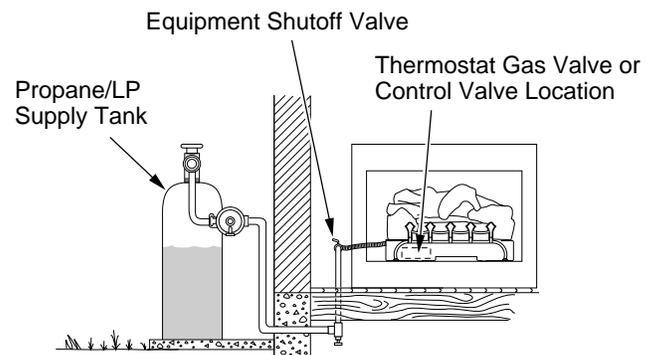

Figure 17 - Checking Gas Joints (Propane/LP Gas Only)
3. Check all joints from gas meter for natural or propane/LP supply to equipment shutoff valve (see Figure 17 or 18). Apply a noncorrosive leak detection fluid to all joints. Bubbles forming show a leak.
4. Check all joints from equipment shutoff valve to thermostat gas valve (Thermostat-Controlled Models) or control valve (Remote-Ready Models) (see Figure 17 or 18). Apply a noncorrosive leak detection fluid to all joints. Bubbles forming show a leak.